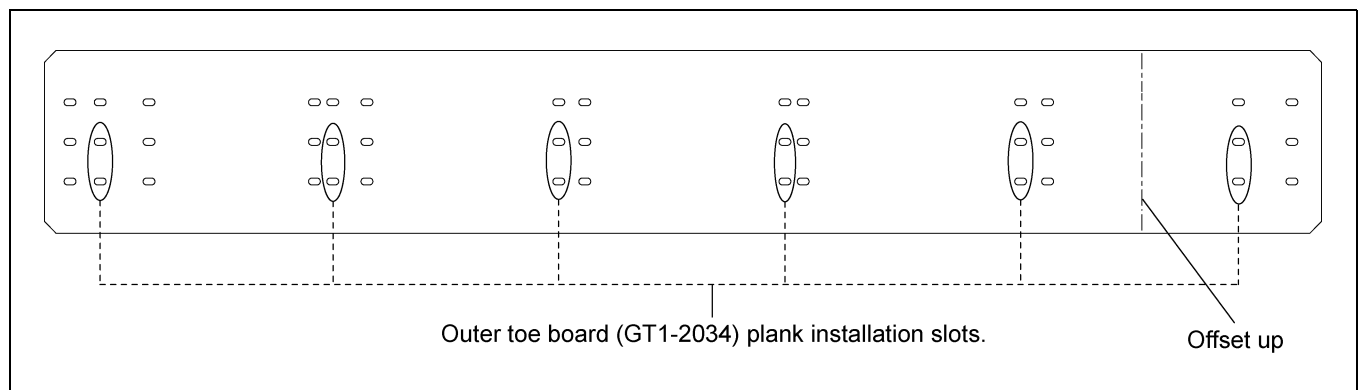

Figure 4S 24' Outer Toe Board (GT1-2034)
3. Outer toe board (GT1-2034) is aligned and attached to the planks with the corresponding slots as shown in Figure 4S.